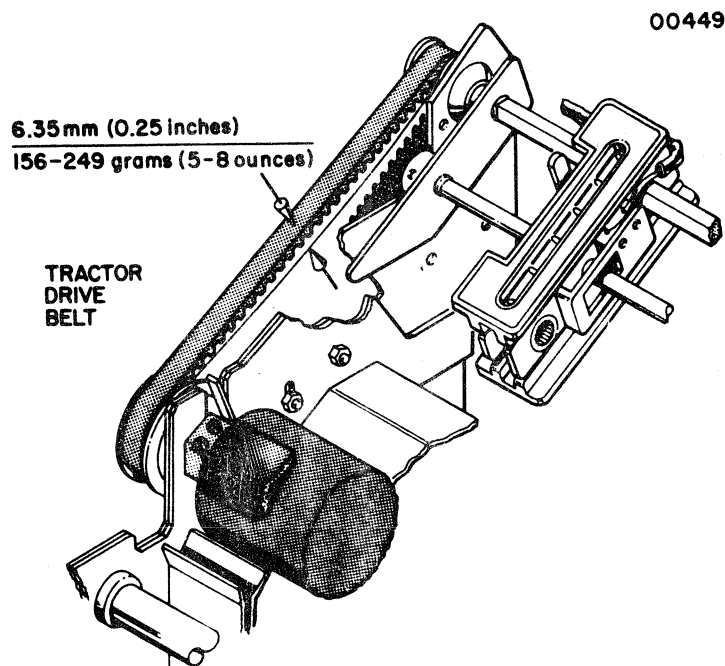

Figure 3-20. TRACTOR DRIVE TIMING BELT TENSION
- a. Remove tractor drive assembly (1) per paragraph 3.14.B.1.
1. Tractor Drive Timing Belt (Refer to Figure 3-20)